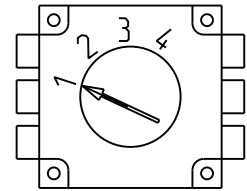

Figure 1 – Battery Selection
Battery Setpoints (Fig. 1)	Customer Battery Requirements
- Before installing, turn regulator over and select appropriate battery type (See Table 1 and Fig. 1). Follow OEM vehicle manufacturer's guidelines to properly adjust regulator setpoint. When OEM vehicle manufacturer's guidelines to properly adjust regulator setpoint are NOT available, the settings in Table 1 can be used.